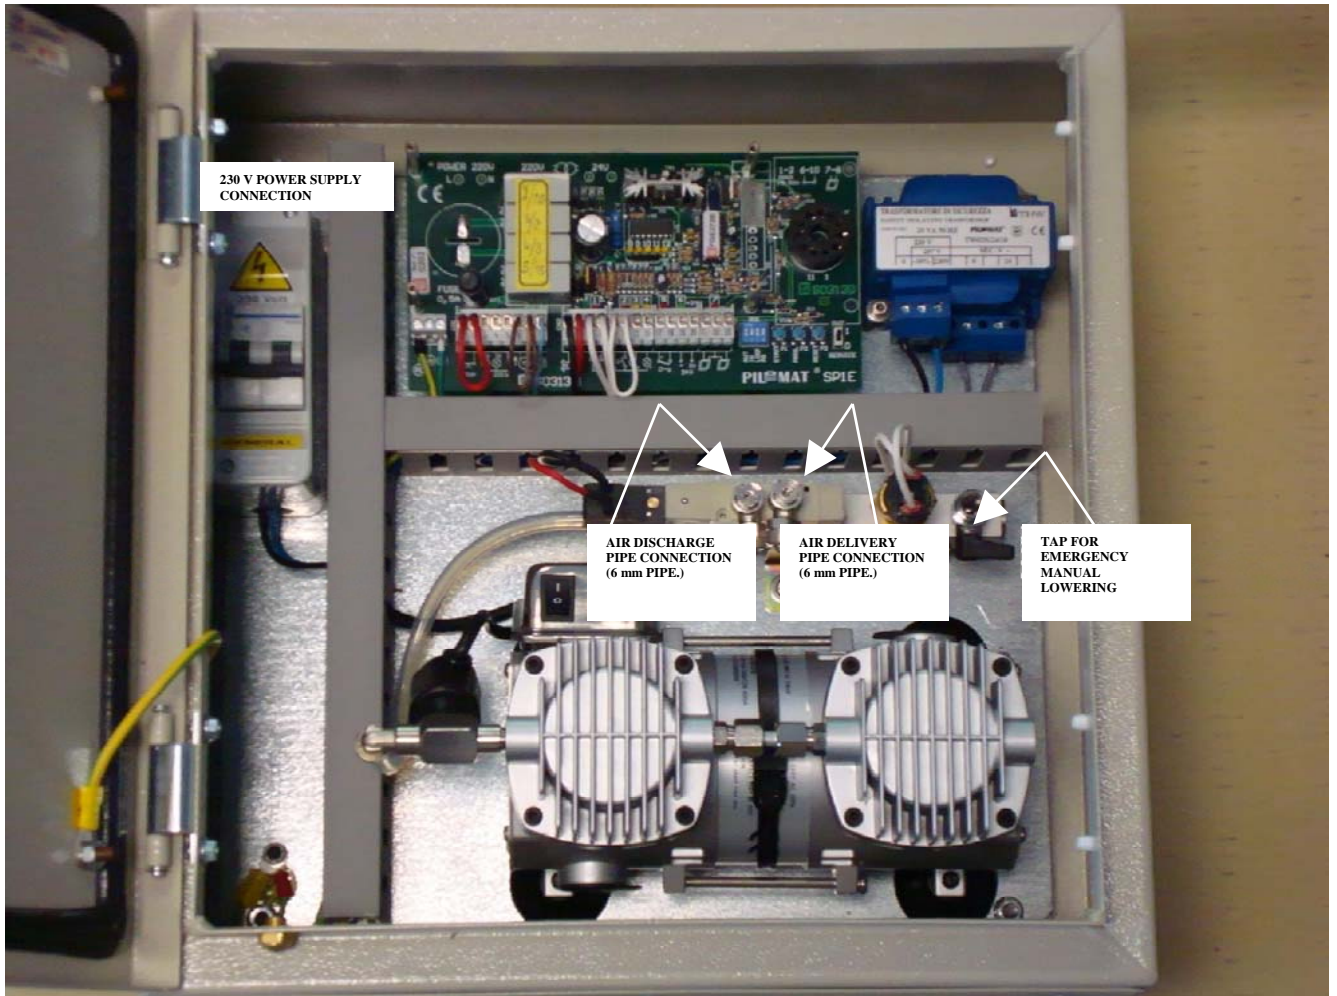

Fig. 8
- Unscrew anti-clockwise the emergency tap in Fig.8 until the traffic bollard is completely lowered.